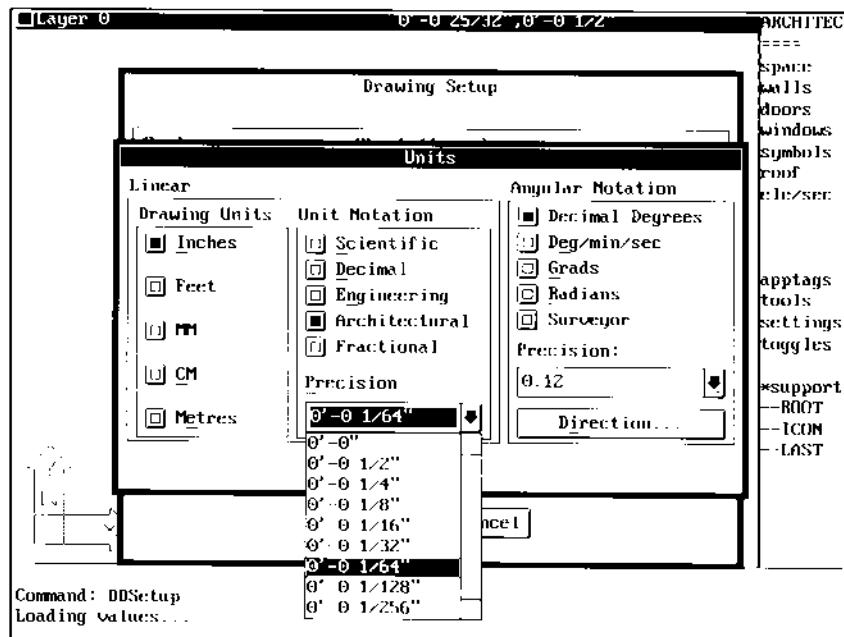

Figure 6.
10. Expand the Precision: popup list by pressing on the down arrow and choose the default value of 0'-0' 1/64" for the smallest fractional denominator as shown in Figure 6, then pick OK.